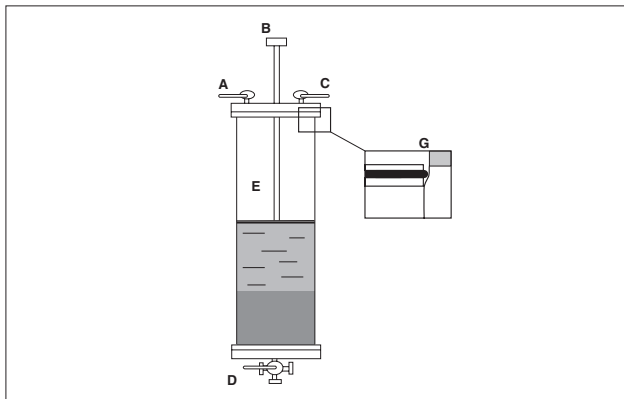

Figure 3. Schematic representation of INdEX column with a 4-port (2-way) valve mounted at the bottom outlet.
2. Pour the 75% slurry into the column. Fill the column with packing solution up to the top of the glass tube and mix the slurry. Allow the medium to sediment to just below the bevel of the glass tube (G), see Figure 3.
- Connect a pump to the inlet of the hydraulic chamber (A), with a manometer and a pressure relief valve in-line between the pump and the hydraulic chamber. The manometer should be placed after the valve in the direction of the flow.
- Open the hydraulic inlet (A), and the hydraulic outlet (C). Start the pump and flush the hydraulic chamber (E) free of air and any residual medium.
- Close (C) and open the elution inlet/outlet (B) to allow trapped air in the adaptor bed support to escape.
- Close (B) and open the elution inlet/outlet (D) to start the packing, applying a predefined constant hydraulic packing pressure. When packing Sepharose 6 Fast Flow based media in an INdEX column to a bed height of 15 cm, the recommended hydraulic packing pressure is 1.5 bar for INdEX 100 and 0.8 bar for INdEX 200.
- Close (A) and (D) and stop the pump.
- To unpack the column, connect the outlet from the pump to (B) and open (C) while keeping (D) closed. This will cause the adaptor to rise from the bed surface.